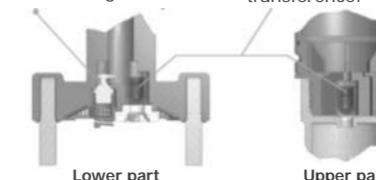

Figure 4
- 4° - Move the pump lever until the desired working pressure is reached; the equipment has a pressure relief valve (Figure 4) that will be activated when the pressure in the tank exceeds 500 KPA (75 PSI). Note that when activated it may make a slight noise, indicating the correct working pressure has been reached.